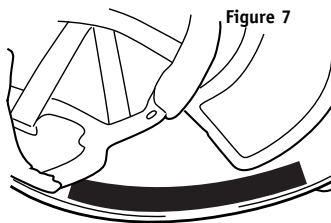

Figure 7
1. Remove plastic from the Velcro attached to the cheek pad. Apply to the helmet. Press firmly, holding pad in place to ensure a secure placement (Figure 7).